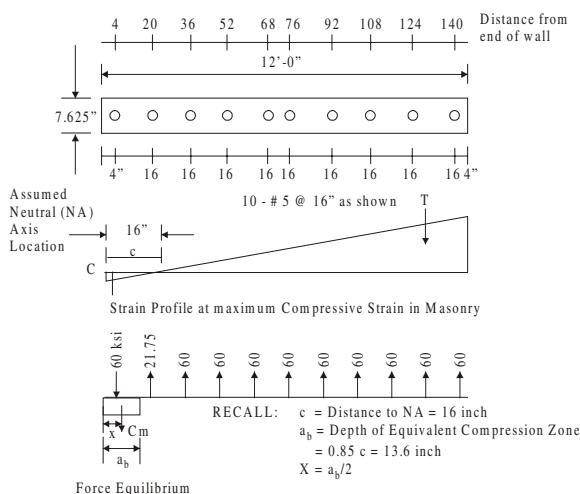

Figure 11-28. Steel locations, strain profile and force equilibrium diagrams
3. Nominal bending moment strength (M_o): See Figure 11-28.